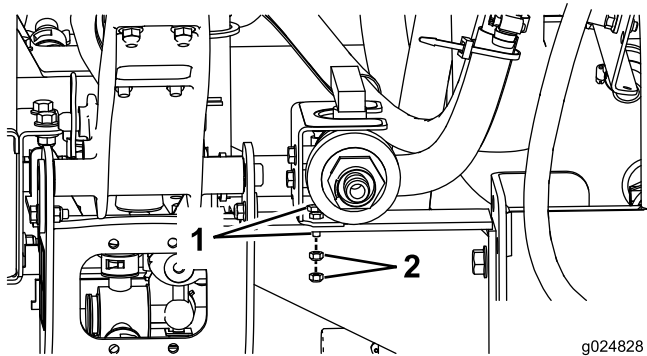

**Figure 20**
2. Assemble the Ball Valve mount assembly (Figure 20).